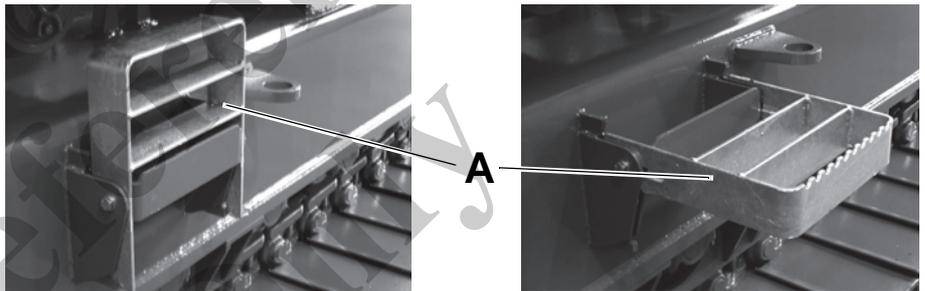

Fig. 141 Folded-in access ladder and folded-out access ladder (A)
1	Pull the access ladder (A) in Fig. 141 upward.
2	Slowly lower the access ladder (A) in Fig. 141 until it is completely horizontal.
1	Lift the lowered access ladder (A) in Fig. 141 until it is resting completely against the side wall.
2	Pull the access ladder (A) in Fig. 141 upward and then let it lower.